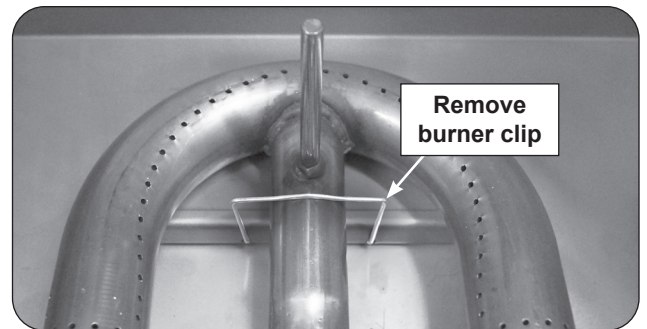

Fig. 42-2 Burner clip removal
2. Locate the burner clip (located over the rear center tube of the burner) and slightly pinch and remove the clip from the burner support (see Fig. 42-2).